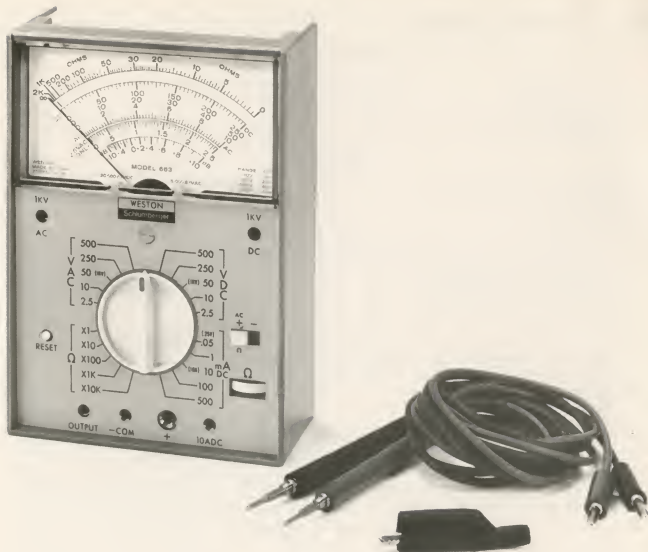

FIGURE 1. MODEL 663 VOLT-OHM-MILLIAMMETER
**GENERAL:** The Model 663 is a portable self-contained analog multimeter for bench, laboratory and field use. (See Figure 1) It is housed in a shock resistant polycarbonate thermoplastic case, and is designed for the greatest convenience, utility and ruggedness. The unit will withstand extremely rough handling with minimum degradation of accuracy and little damage. (See Warranty) Precision metal film, wire wound and carbon film resistors of  $\pm 0.5\%$  tolerance are used to extend the range of a ruggedized taut band suspension, self-shielded core magnet microammeter. All components are mounted on two parallel circuit boards that plug together to form an assembly with no soldering required. Ranges have been chosen to give the best coverage for measurements in the electric and electronic fields. A large 4" mirror scale is provided for easy readability. Separate scales are provided for the 2.5 V AC range, the balance of the AC ranges, the DC ranges, DECIBELS, and OHMS. The ohms scale, with a 20 ohms center value, is figured from 0 to 2000 and is calibrated to provide accurate readings with good resolution.